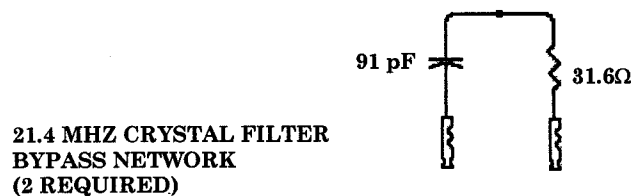
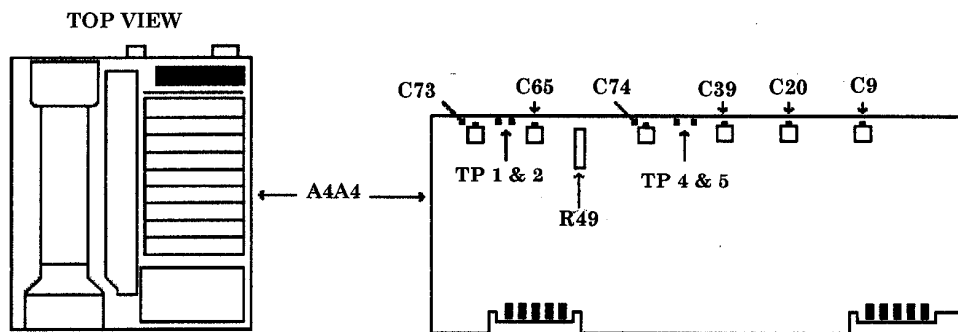
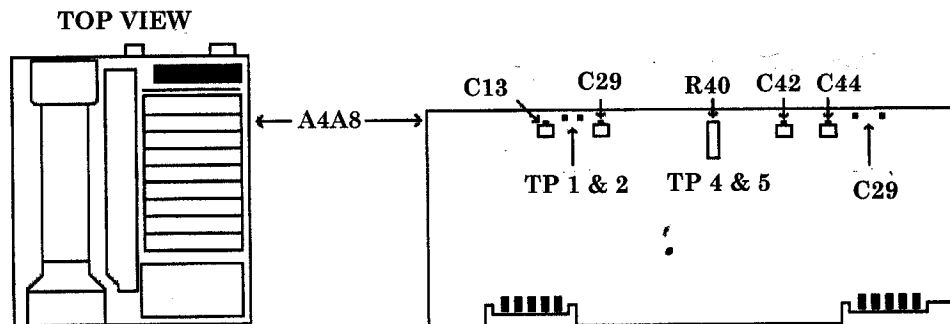

Figure 18. 21.4 MHz filter.
Figure 19. A4A4 test points.
Figure 20. A4A8 board.
The pictured filter (fig. 18) is required to continue with this adjustment routine.
(73) Press TI keys as listed in (a) through (e) below:
(74) Adjust TI **DATA** knob to position trace at (or just below) reference level (top) graticule line.
(75) Connect 21.4 MHz CRYSTAL FILTER BYPASS NETWORK(S) (fig. 18) between A4A4TP1 and A4A4TP2 and between A4A4TP4 and A4A4TP5 (fig. 19).
(76) Adjust A4A4C20 (fig. 19) to center signal on center vertical graticule line.
(77) Adjust A4A4C9 (fig. 19) for best symmetry of signal.
(78) Remove 21.4 MHz CRYSTAL FILTER BYPASS NETWORK(S) (fig. 18) from between A4A4TP4 and A4A4TP5 (fig. 19).
(79) Adjust A4A4C74 (fig. 19) to center signal on center vertical graticule line.
(80) Adjust A4A4C39 (fig. 19) for best symmetry of signal.
(81) Remove 21.4 MHz CRYSTAL FILTER BYPASS NETWORK(S) (fig. 18) from between A4A4TP1 and A4A4TP2 (fig. 19).
(82) Adjust A4A4C73 (fig. 19) to center signal on center vertical graticule line.
(83) Adjust A4A4C65 (fig. 19) for best symmetry of signal.
(84) Press TI keys as listed in (a) through (c) below:
(85) Adjust A4A4R49 (fig. 19) to align markers on TI display. **MKR Δ** level should indicate 1.00X.
- (97) Press TI keys as listed in (a) through (c) below:
- (98) Connect 21.4 MHz CRYSTAL FILTER BYPASS NETWORK(S) (fig. 18) between A4A8TP1 and A4A8TP2 (fig. 20).
- (99) Adjust A4A8C44 (fig. 20) to center signal on center vertical graticule line.
- (100) Adjust A4A8C42 (fig. 20) for best symmetry of signal.
- (101) Remove 21.4 MHz CRYSTAL FILTER BYPASS NETWORK(S) (fig. 18) from between A4A8TP1 and A4A8TP2 (fig. 20).
- (102) Connect 21.4 MHz CRYSTAL FILTER BYPASS NETWORK(S) (fig. 18) between A4A8TP4 and A4A8TP5 (fig. 20).
(103) Adjust A4A8C29 (fig. 20) to center signal on center vertical graticule line.
(104) Adjust A4A8C13 (fig. 20) for best symmetry of signal.
(105) Remove 21.4 MHz CRYSTAL FILTER BYPASS NETWORK(S) (fig. 18) from between A4A8TP4 and A4A8TP5 (fig. 20).
(107) Adjust A4A8R40 (fig. 20) to align markers on display. **MKR LVL** should indicate 1.00X.